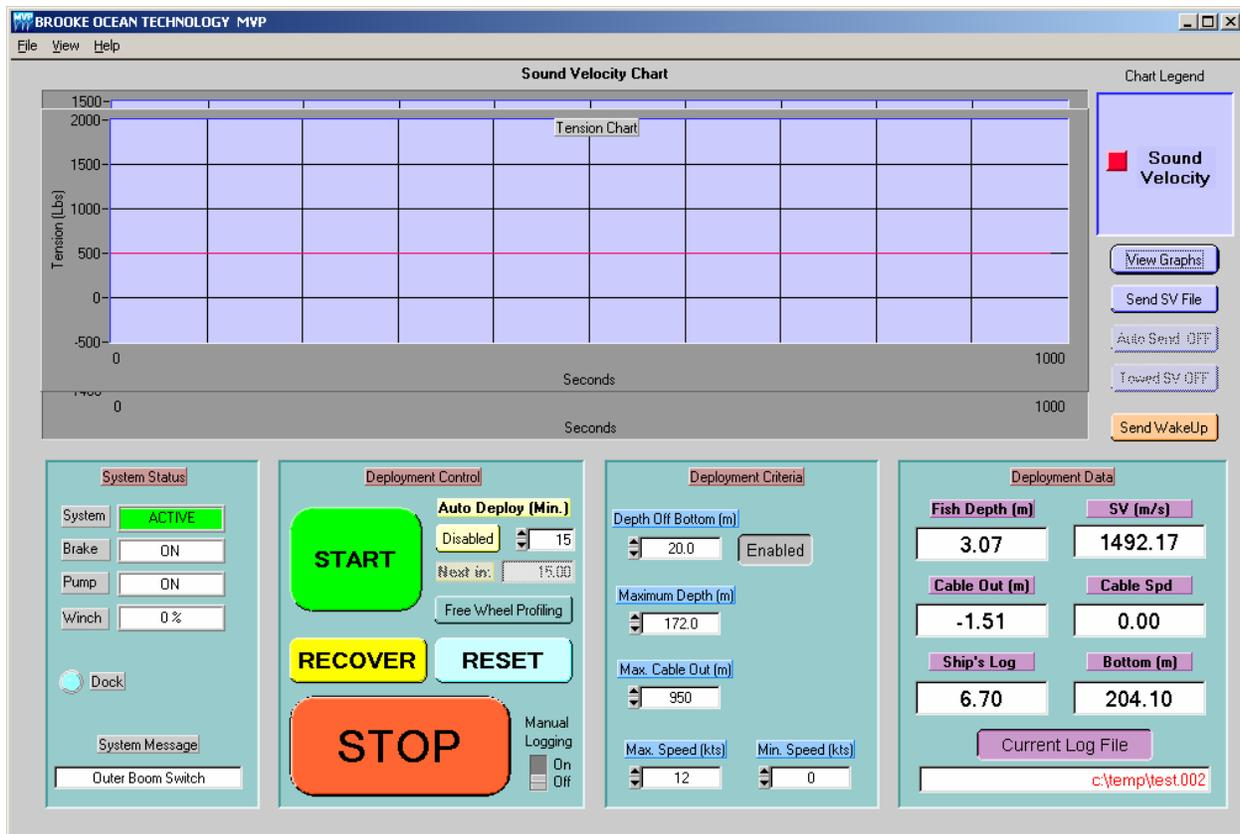

Figure 4: Main Operator Screen with Tension Chart
- *View Tension.* This is a user-selected toggle. When selected, a time series of tension is displayed as shown in Figure 4. The chart overlays the main control display and should only be used intermittently. If there is no tension sensor installed in the system, the chart will still appear but will not contain tension data.
The *Tension Chart* (Figure 4) has a single trace, which displays towcable tension (pounds) vs. real time. Selecting “View Tension” in the “View” pull down menu enables this chart. . If there is no tension sensor installed in the system, the chart will still appear but will not contain tension data.